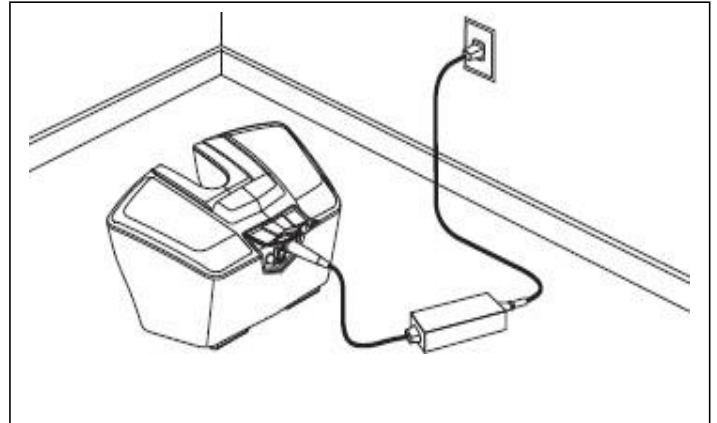

Figure 13. Battery Charging with the Battery Pack Removed
3. Plug the off-board charger into the battery charger port. **See figure 13.**